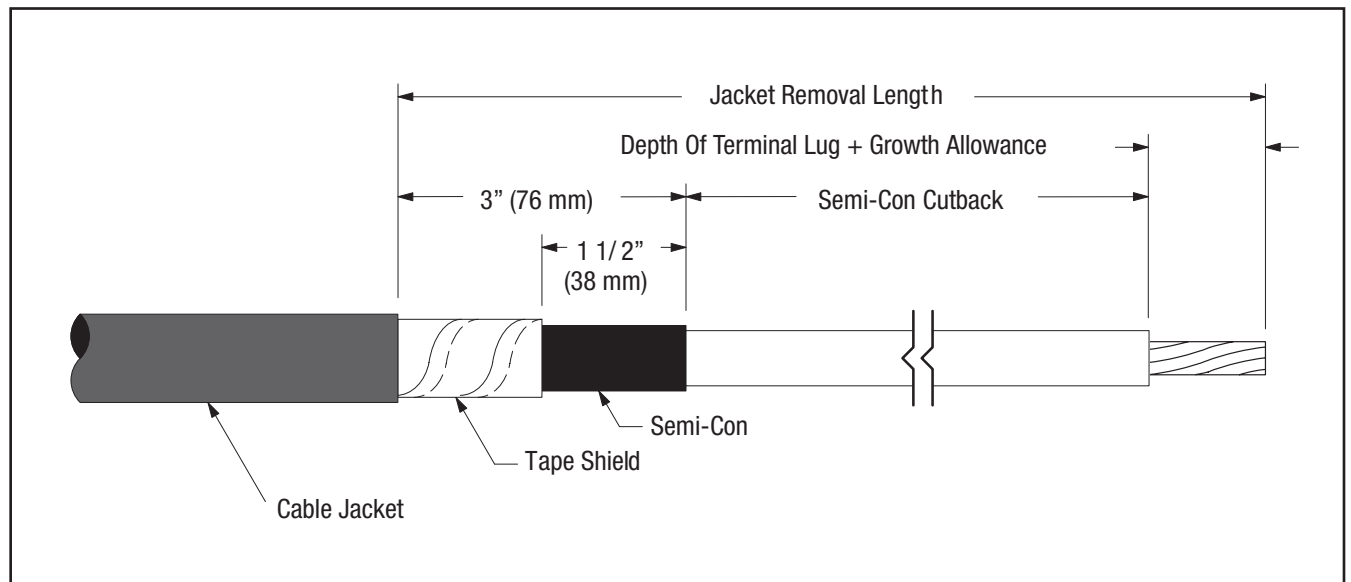

Figure 1
2.2 Prepare cable using dimensions shown in Figure 1. **Be sure to allow for depth of terminal lug.** Refer to Table 2 for semi-con cutback dimension. If necessary to prevent tape shield from unrolling, hold down edge with a single wrap of 3M™ EMI Copper Foil Shielding Tape 1181.